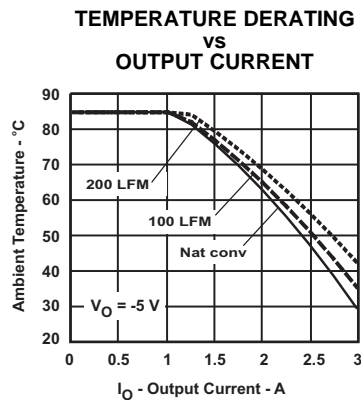
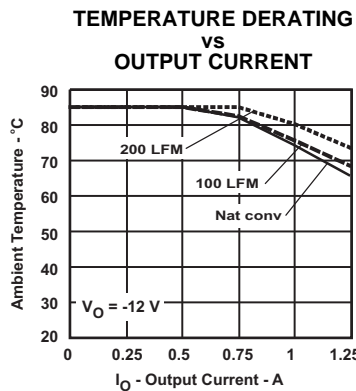
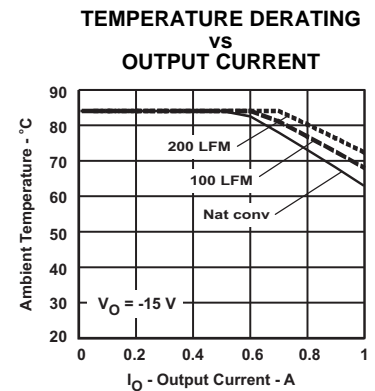

Figure 10.
Figure 11.
Figure 12.
- (2) The temperature derating curves represent the conditions at which internal components are at or below the manufacturer's maximum operating temperatures. Derating limits apply to modules soldered directly to a 100 mm x 100 mm, double-sided PCB with 2 oz. copper. For surface mount packages (AS and AZ suffix), multiple vias (plated through holes) are required to add thermal paths around the power pins. Please refer to the mechanical specification for more information. Applies to Figure 10, Figure 11, and Figure 12.